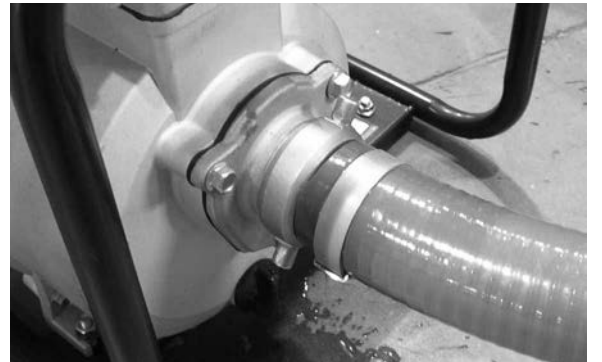

Figure 7
This water pump does not include water hoses and you will need to purchase 2 hoses of the required length having a diameter of 3". It is required to get a reinforced hose with or without 3" NPT to assemble to the inlet (3" NPT hoses do not require hose adaptors, see Fig.7), a non-reinforced hose will collapse on itself from the suction force and prevent water flow, which could cause damage to the engine and water pump machine seal.
- 1) If you purchased a 3" NPT reinforced hose, screw it onto the inlet thread as shown in Fig.7.
If this water pump is used to pump water from a river, it is very important to install the strainer basket to the inlet hose to prevent suction of rocks or weeds. Fig.7 shows the pump inlet and hose. Attach strainer basket to the other end of inlet hose.